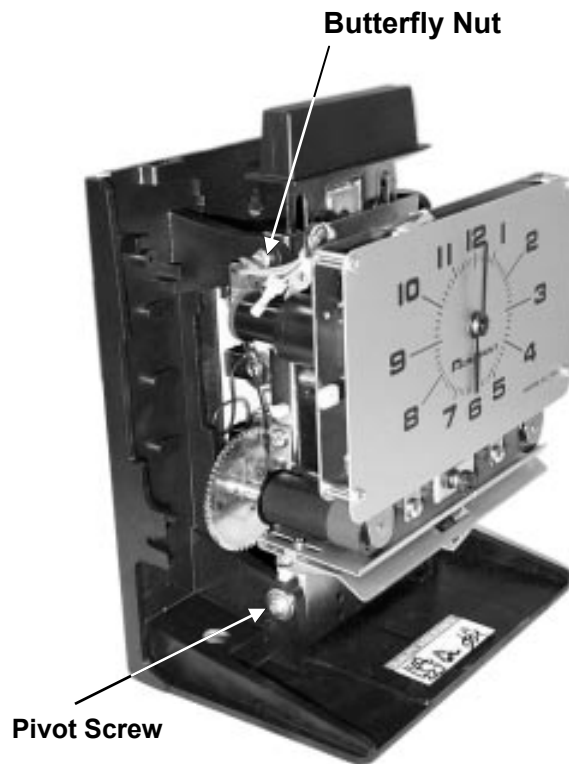

Figure 1
- Remove the two (2) Butterfly Nuts at the top of the Frame and pivot the clock mechanism forward on the Pivot Screws (See Figure 1).
- The recorder will advance one (1) minute within sixty (60) seconds.